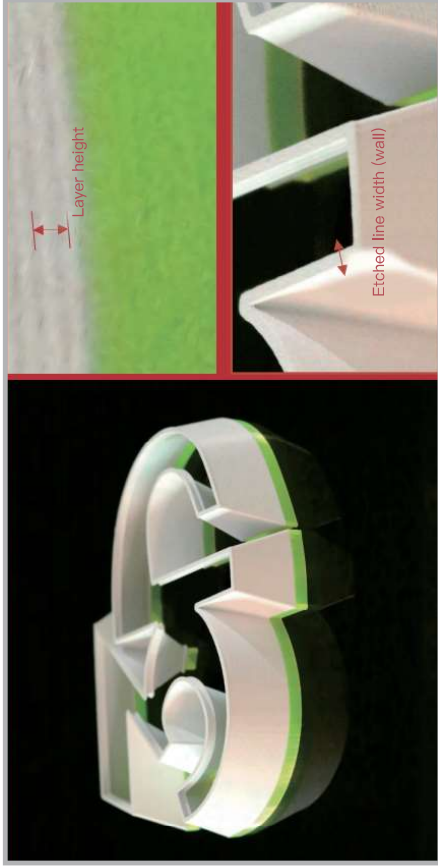

Figure1-21
1. Layer height: the height of a single layer for printing, as shown in Figure 1-21, the smaller the layer height, the more the printing time, but the finer the printing quality. On the contrary, the greater the layer height, the less the printing time, but the poorer the printing quality; it is recommended to set the printing shell layer height below half of the nozzle diameter.
The etched line width is the wall thickness, as shown in Figure 1-21. Typing shell is generally between 0.6 and 1.2. The smaller the value is, the thinner the wall thickness is, whereas the greater the value is, the thicker the wall thickness is. In general, a normal 0.5 thick layer can be filled with the 1.2mm.